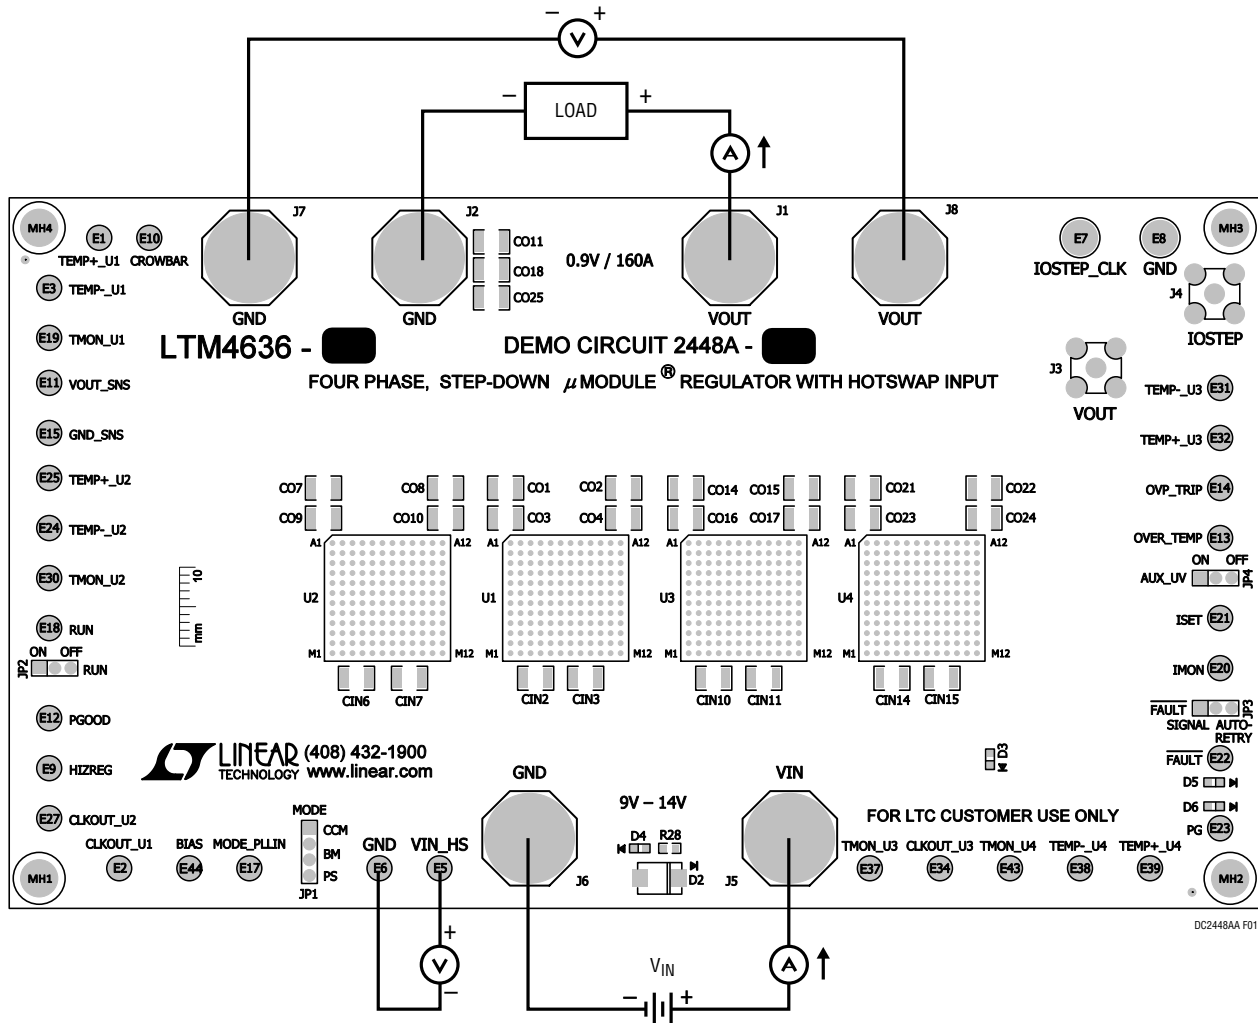

Figure 1. Measurement Setup of DC2448A-A
Demonstration circuit DC2448A-A is an easy way to evaluate the performance of PolyPhase operation of the LTM4636EY. Due to the high input/output current, the user should select the proper input supply/load/cable which can sustain the full load operation. Please refer to Figure 1 for proper measurement equipment setup and follow the procedure below:
2. With power off, connect the input power supply, load and meters as shown in Figure 1. Preset the load to 0A and V_{IN} supply to 12V.